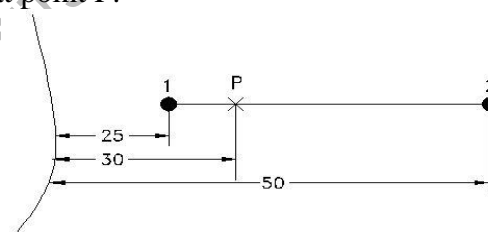

Figure 3
- (b) A 1D spar element having a linear shape function is as shown Figure 3 below. If the temperature at node 1 is 50° C and at node 2 is -20° C, find the temperature at point P. **04**